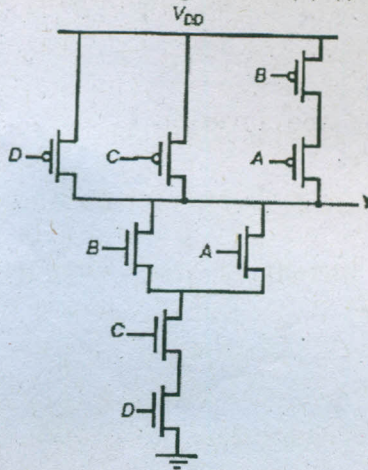

Figure. 13(a) (i)
13. (a) (i) Consider the circuit of Figure. 13(a) (i). (8)